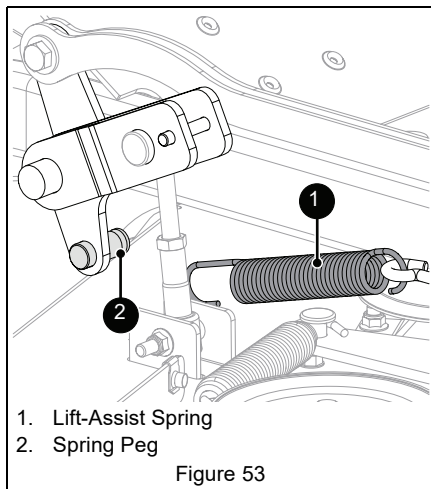

Figure 53
6. Slowly disconnect lift-assist springs from spring peg on each side of deck. See Figure 53.